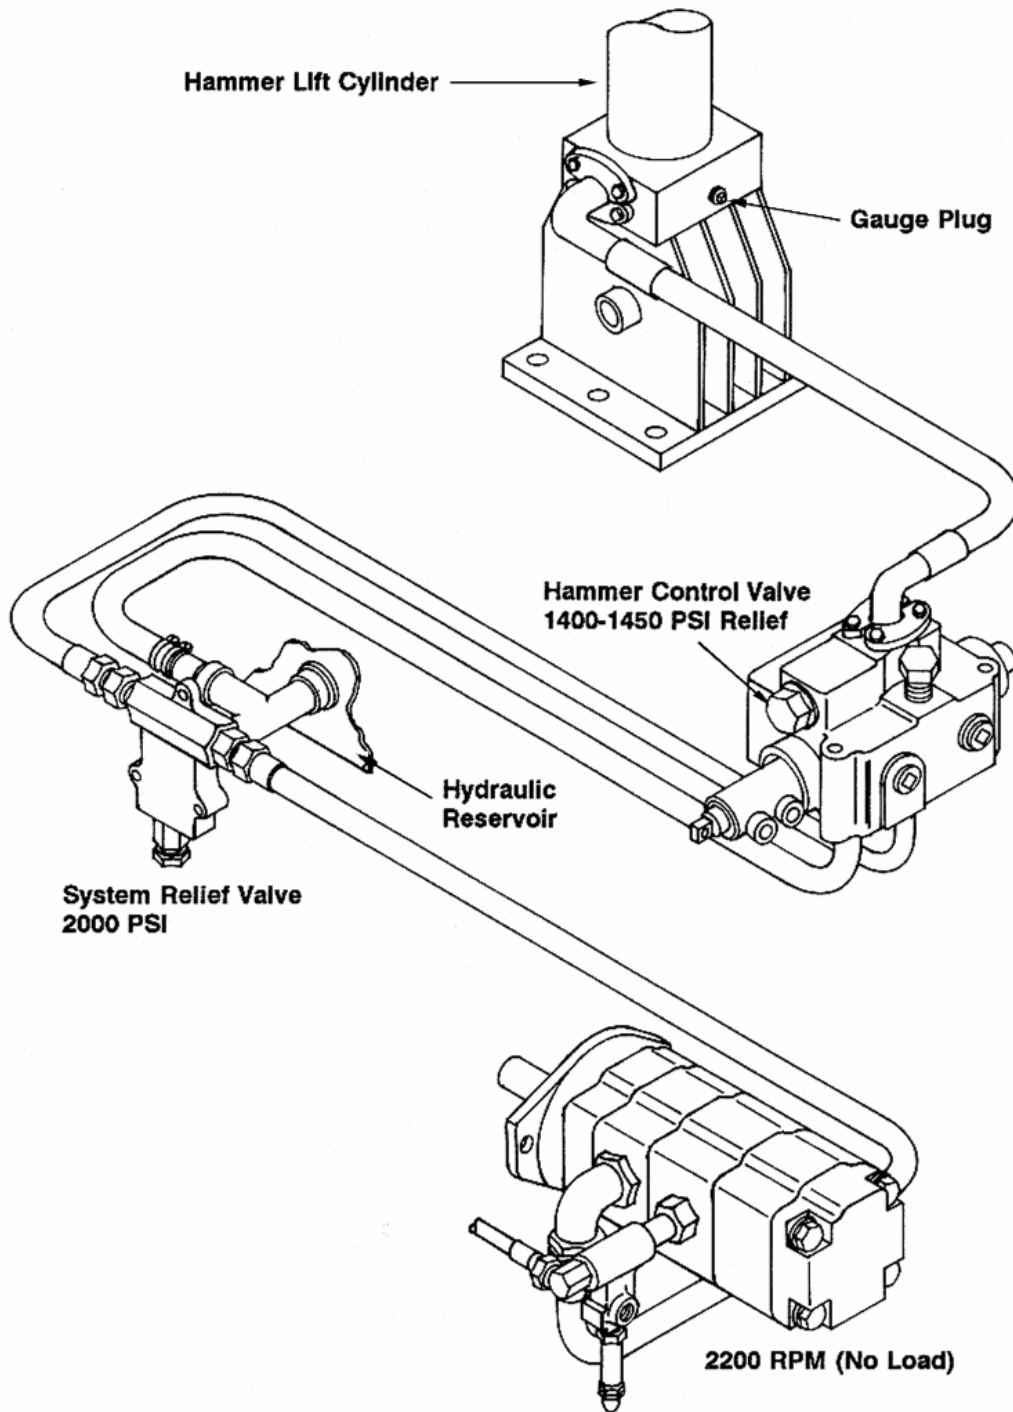

Figure 8-1
1. Remove the 1/2" hex head pipe plug (gauge plug) from the base of the lift cylinder. Refer to Figure 8-1.
6. To change the relief pressure, remove the plug from the relief-valve port on the hammer valve (refer to Figure 8-1). Add or remove shims (Arrow part no. 3001344) between the spring and cap nut. Each shim will change the pressure approximately 40 psi.